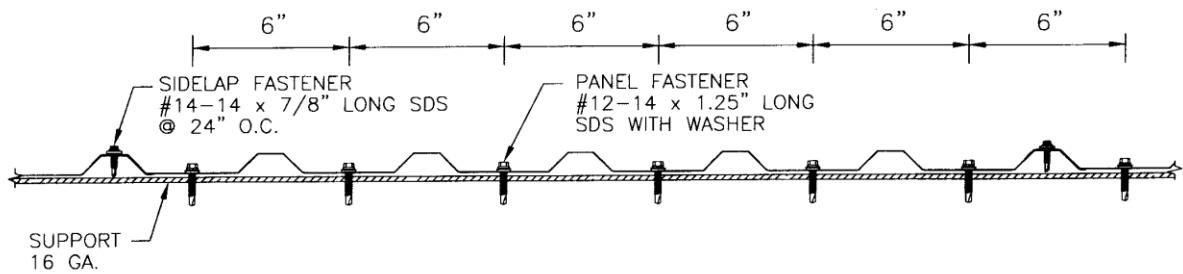

Figure 2. Minimum 26-Gauge Alliance M Panel Fastener Pattern; 6" on center
- **Panel Edges to the Steel Purlins or Steel Girts:** Minimum No. 12-14 x 1-1/4" hex head screws with a 9/16" washer. Locate a line of fasteners along the steel purlin or girt spaced 6" on center with the fasteners located in the valleys of the panels. Use fasteners long enough to ensure a minimum penetration of 3 pitches of thread below the steel purlin or girt. Refer to Figure 2 for an illustration of the fastener pattern.